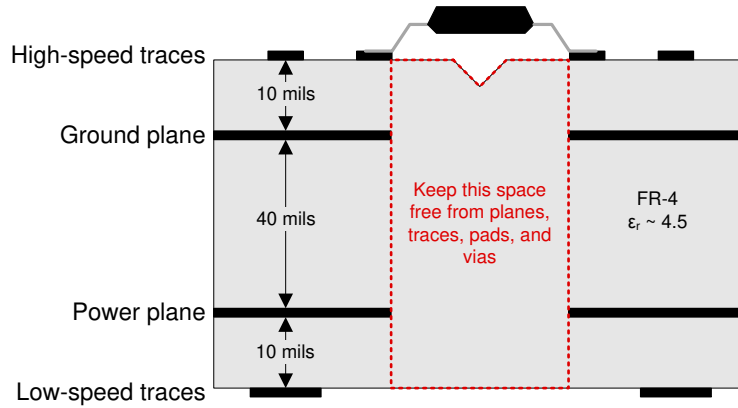

图 10-1. Recommended Layer Stack
On-chip IEC-ESD protection is good for laboratory and portable equipment but never sufficient for EFT and surge transients occurring in industrial environments. Therefore robust and reliable bus node design requires the use of external transient protection devices. Because ESD and EFT transients have a wide frequency bandwidth from approximately 3-MHz to 3-GHz, high-frequency layout techniques must be applied during PCB design. A minimum of four layers is required to accomplish a low EMI PCB design (see Figure 10-1).
- Apply 100-nF to 220-nF bypass capacitors as close as possible to the VCC-pins of transceiver, UART, controller ICs on the board (see Figure 10-1).
- Use at least two vias for VCC and ground connections of bypass capacitors and protection devices to minimize effective via-inductance (see Figure 10-1).
- Use 1-k $\Omega$  to 10-k $\Omega$  pullup and pulldown resistors for enable lines to limit noise currents in these lines during transient events (see Figure 10-1).
- Insert pulse-proof resistors into the A and B bus lines if the TVS clamping voltage is higher than the specified maximum voltage of the transceiver bus pins. These resistors limit the residual clamping current into the transceiver and prevent it from latching up (see Figure 10-1).